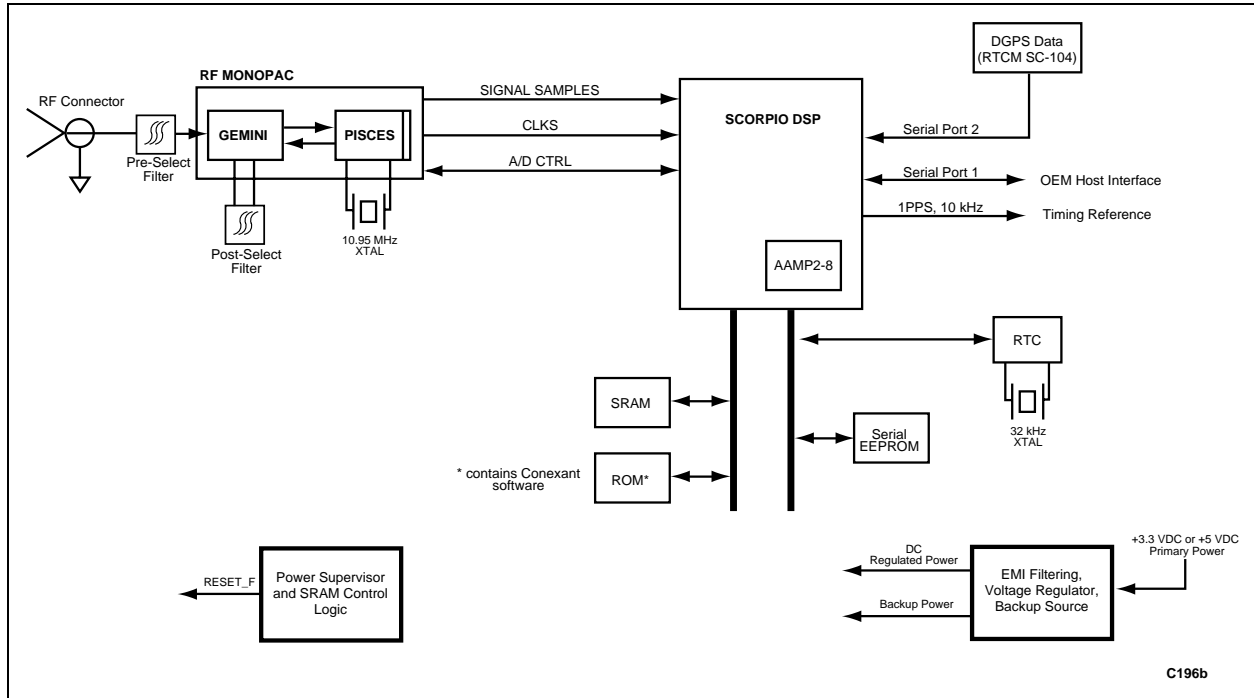
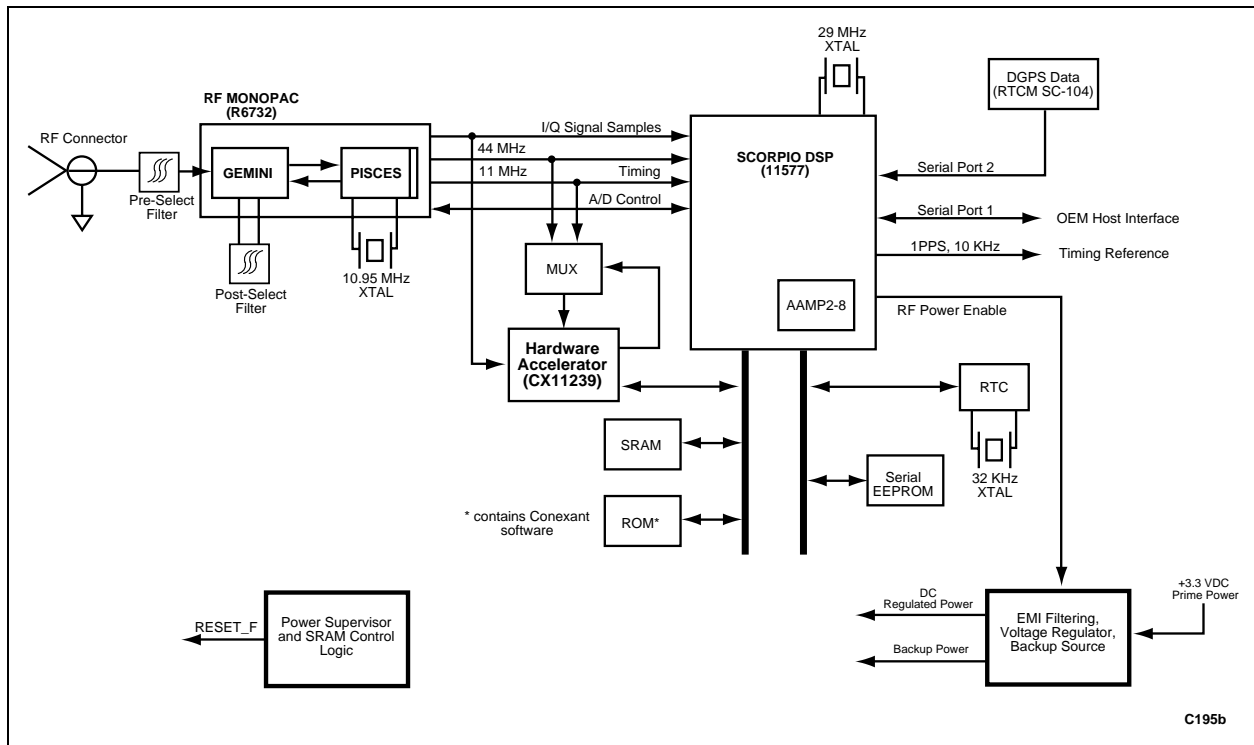
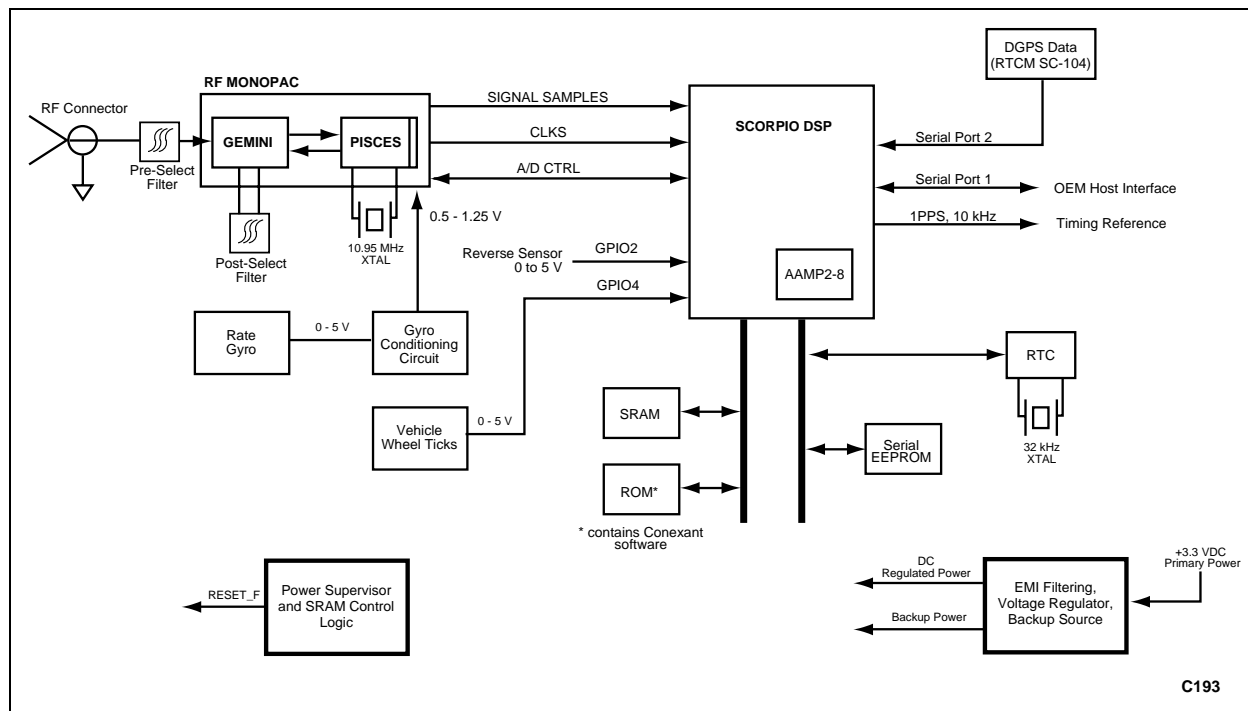

Figure 3. Basic Jupiter Block Diagram
Figure 4. Jupiter Block Diagram With The CX11239
Figure 5. Jupiter Block Diagram With Dead-Reckoning Capability
Receiver Architecture. The functional architecture of the basic Jupiter receiver is shown in Figure 3. Figure 4 shows the Jupiter with the CX11239 and Figure 5 shows the Jupiter with dead-reckoning circuitry. The receiver design is based on the Conexant Zodiac chipset: the Gemini/Pisces MonoPac™ and the Scorpio BP. The Gemini/Pisces MonoPac contains all the RF downconversion and amplification circuitry, and presents the In-Phase (I) and Quadrature-Phase (Q) Intermediate Frequency (IF) sampled data to the BP. The BP contains an integral microprocessor and the required GPS-specific signal processing hardware. Memory and other external supporting components configure the receiver into a complete navigation system.